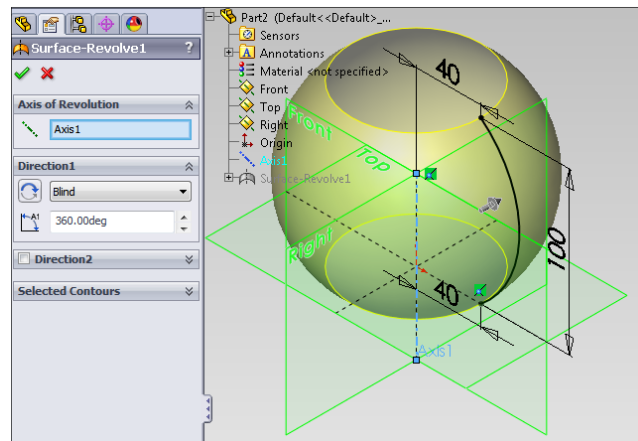

Fig.4
3. Create **Revolved Surface**  : Fig.4